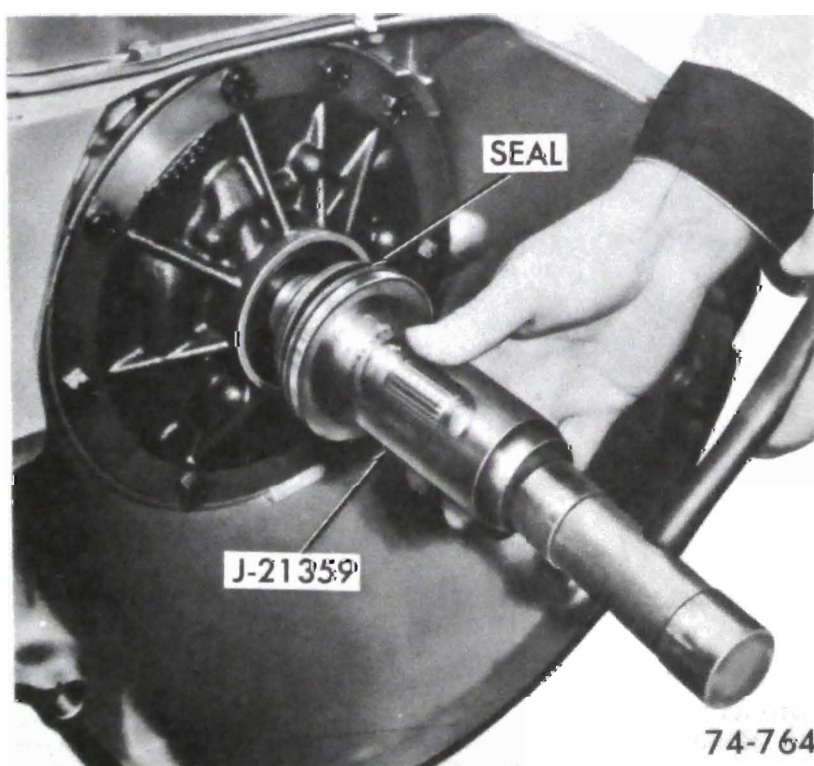

Figure 76-259
22. If necessary, install a new front seal, coat the outside diameter with a good sealer and using Tool J-21359, drive the seal in place. See Figure 76-259.